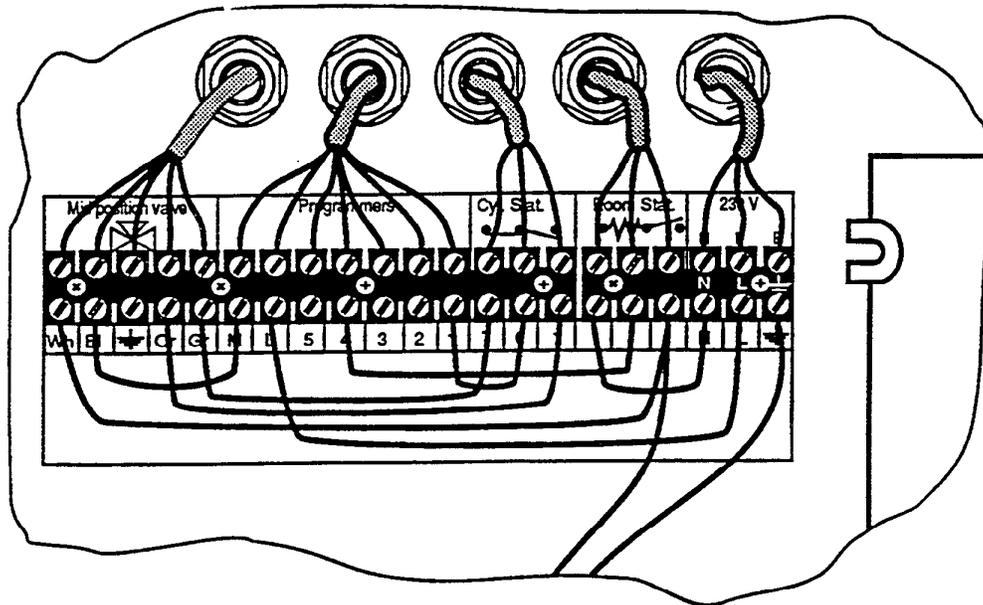

Fig. 24
- c) Fit support bracket (A). d) Fit 14 mm tail drain bend using washer provided.
**N.B.** The drain must be 22 mm and the 14 mm drain bend from the safety valve must be installed so that discharge of water is readily visible. A tundish arrangement is acceptable. The connection must NOT be made by a capillary or compression fitting directly between the 14 mm drain bend and the 22 mm discharge pipe without an 2 mm air gap. see fig. 24.